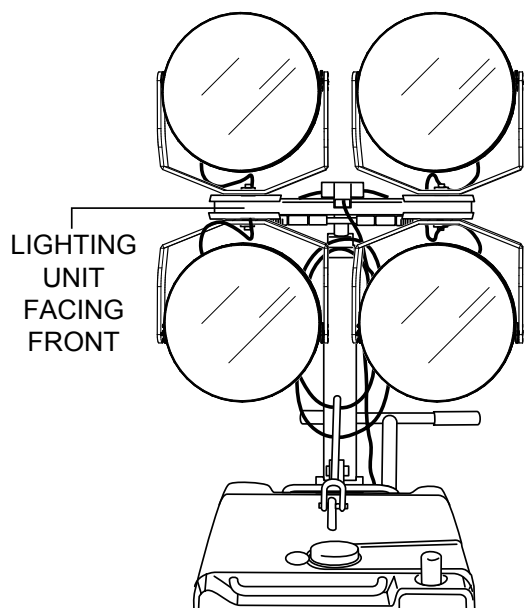

Figure 15. Lighting Unit Facing Front
2. Set the lighting units facing the front (Figure 15).